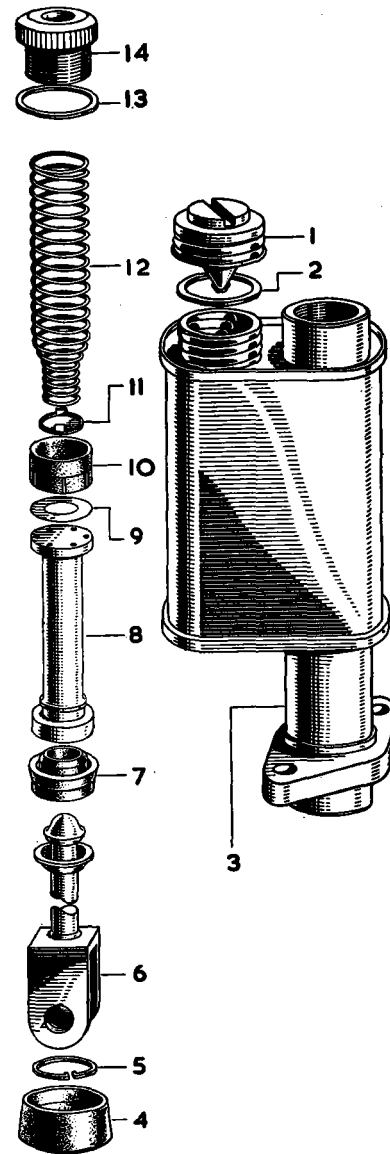

Fig. 5. Exploded view of the master cylinder
The master cylinder consists mainly of a tank and barrel assembly (3 Fig. 5), the former surrounds the latter and is secured by soldering ; at one end of the barrel a fixing flange is mounted, and this is secured in the same manner. The tank is fitted with a filler cap (1) which incorporates a baffle and screws down against a seal (2). A piston (8) is contained within the barrel, and has a rubber main cup (10) spring loaded against its inner end ; between the cup and the piston a thin washer (9) is interposed to prevent the cup from being drawn into the small feed holes drilled around the piston head. The outer end of the piston carries a rubber secondary cup (7) and is formed with a depression to receive the spherical end of a push rod (6) which carries a piston stop and is retained by a circlip (5). A rubber boot (4), through which the push rod passes, is fitted on to the barrel to prevent the intrusion of dirt and moisture.
Disconnect the outlet pipe from the end of the master cylinder, detach the push rod fork end from the clutch pedal, unscrew the fixing bolts and detach the master cylinder from the vehicle. Remove the filler cap (1 Fig. 5), drain the fluid into a clean container, and replace the cap.